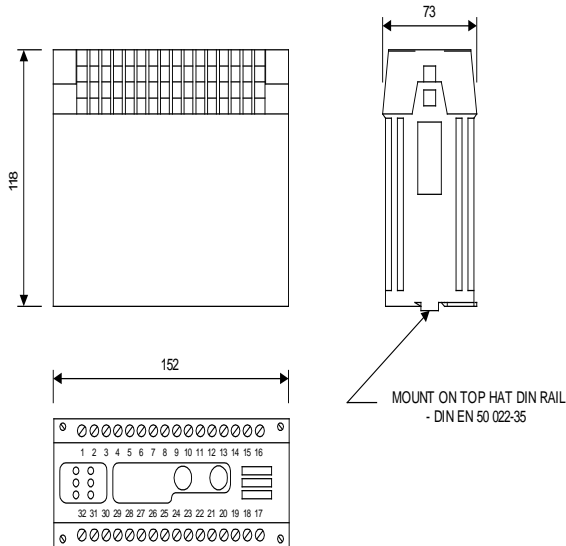

Figure 51 - BSRUA-2 Interface Unit Outline & Dimensions
Figure 51 shows the case size and mounting dimensions of the BSRUA-2 interface unit. All dimensions are in millimeters. The unit must be mounted in an enclosure rated for the known operating environment. In most cases, the unit will fit into an existing machine's control unit panel. The unit snaps onto a common electrical mounting rail, style DIN EN 50 022-35.
Figure 51 also shows the 32 integral connection terminals, in two rows along the top of the interface unit. The terminals are numbered 1 to 32. Each terminal is suitable for up to two (2) 2.5mm² (14 AWG) solid wires. Crimped ferrules or tinning must be used on all stranded wires.